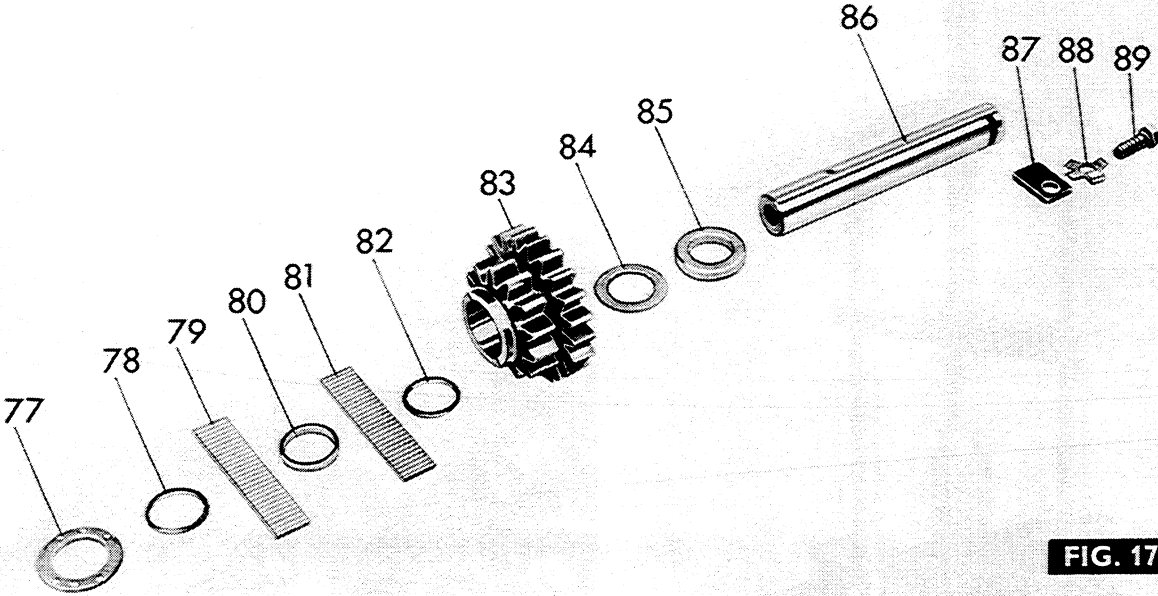

FIG. 17
3. Fig 17. Using a dummy shaft to prevent the needle rollers from falling into the transmission case, remove the reverse gear cluster (83) thrust washers (77 and 84) and distance piece (85).
1. Fig 17. Using petroleum jelly refit the two sets of needle rollers (79 and 81), with a spacer (80) between the rows and a retaining ring (78 and 82) at each end. A smear of petroleum jelly can be used to make the thrust washers (77 and 84) and the distance piece (85) adhere to the end face of the gear cluster.
3. Refit the gear cluster assembly to the transmission case, then insert the shaft (86) from the rear and push out the dummy shaft.